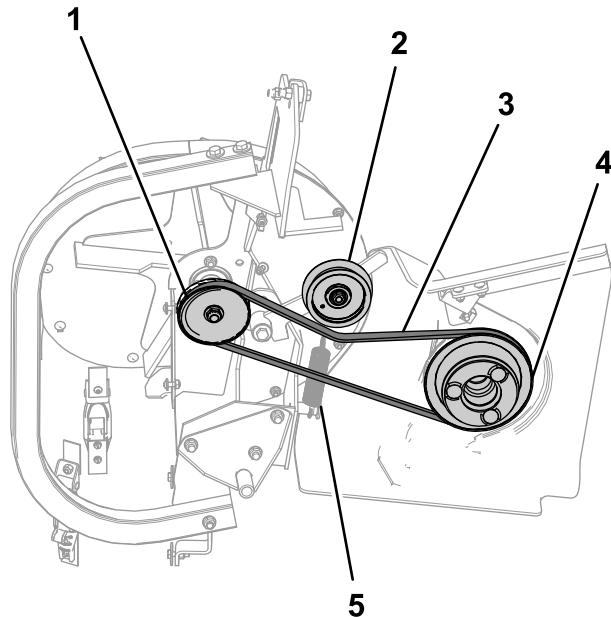

Figure 35
1. Arrange the blower belt around the drive pulley as shown in Figure 35.